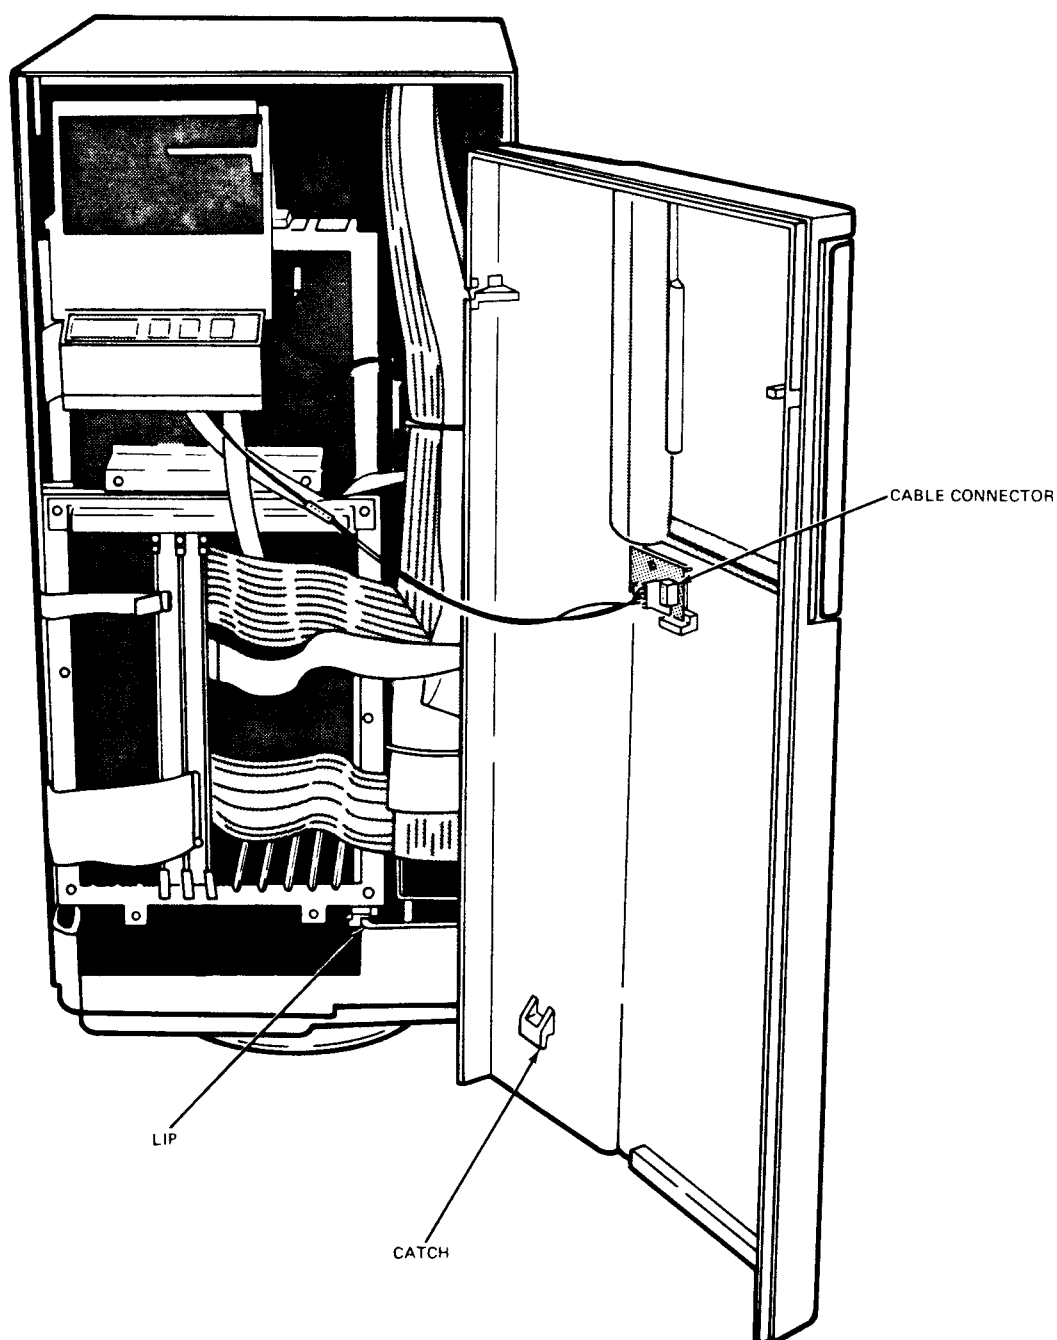

Figure C-3. System With Front Panel Removed
3. The panel should now be unlocked and can be removed by lifting it up and away from the cabinet. Be careful not to remove or damage the cable to the front panel lights (see Figure C-3).
10. Replace the front panel by sliding the catch on the bottom of the front panel over the lip in the interior frame (see Figure C-3) and snapping it into place.